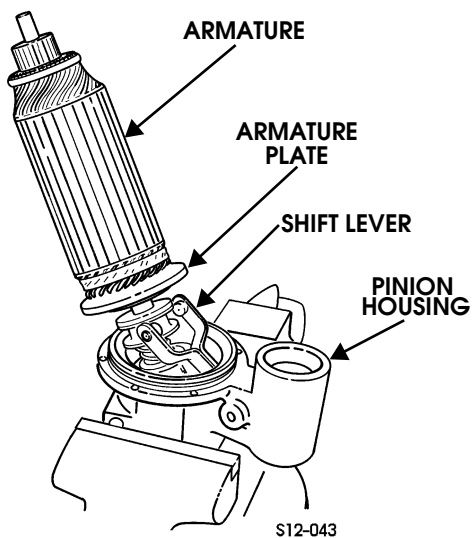

Figure 12-59: Armature Removal/Installation
14. Clamp pinion housing in vise and remove screws from end plate and pinion housing (Figure 12-59).
12. Place washer, clutch, and pinion stop on armature shaft and retain with snap ring. Position armature and shift lever in position shown for installation (Figure 12-59).
14. Start shift lever into pinion housing as armature is positioned in large bore of pinion housing. Then install screws through armature plate into pinion housing. Tighten screws to 40 lb-in. (5 N•m) (Figure 12-59).